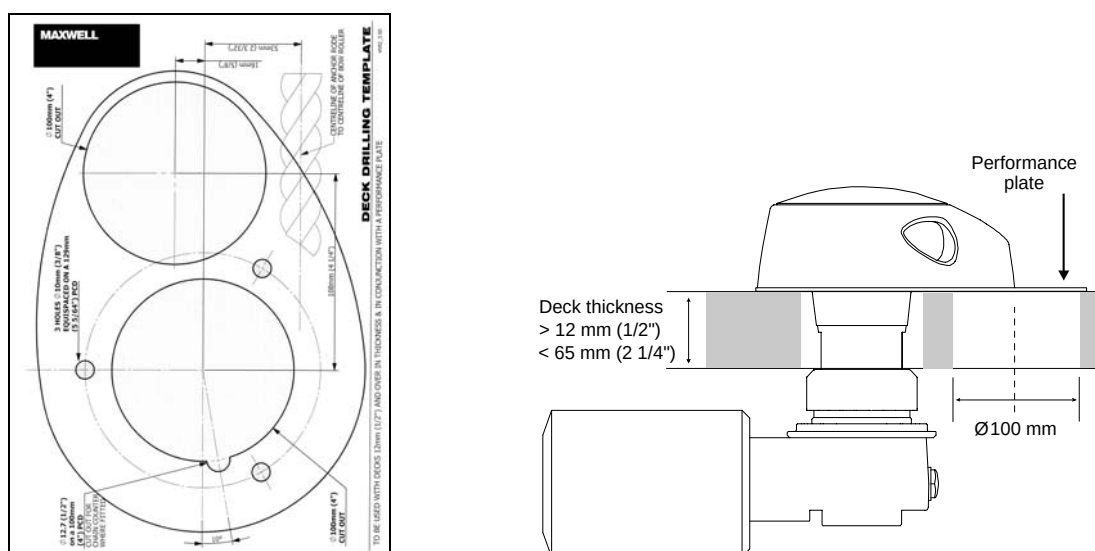

Figure 12 - Template for decks more than 12 mm ($\frac{1}{2}$ ") thick
If fitting the windlass to a deck 12 mm ($\frac{1}{2}$ ") or MORE in thickness, use the template shown in Figure 12 in conjunction with the performance plate supplied. The template is supplied at the back of this manual.
4. For decks thicker than 12 mm ($\frac{1}{2}$ ") use the performance plate as shown in Figure 12 on page 15.